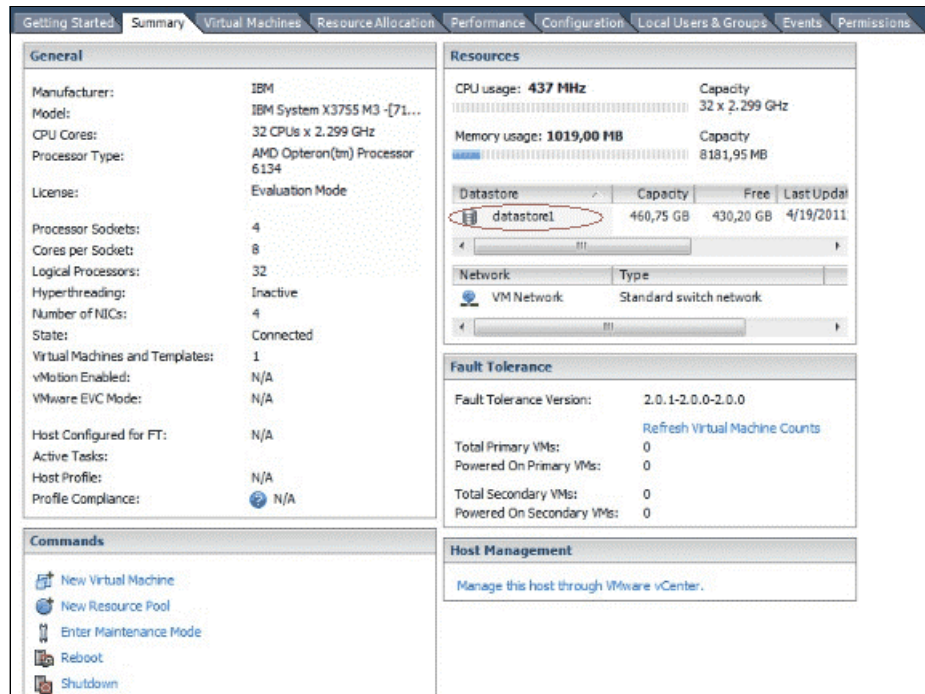

Figure 5-94 Summary in vSphere Client
3. You can verify the multipathing for the datastore by going to the **Summary** tab in the vSphere Client, as shown in Figure 5-94.